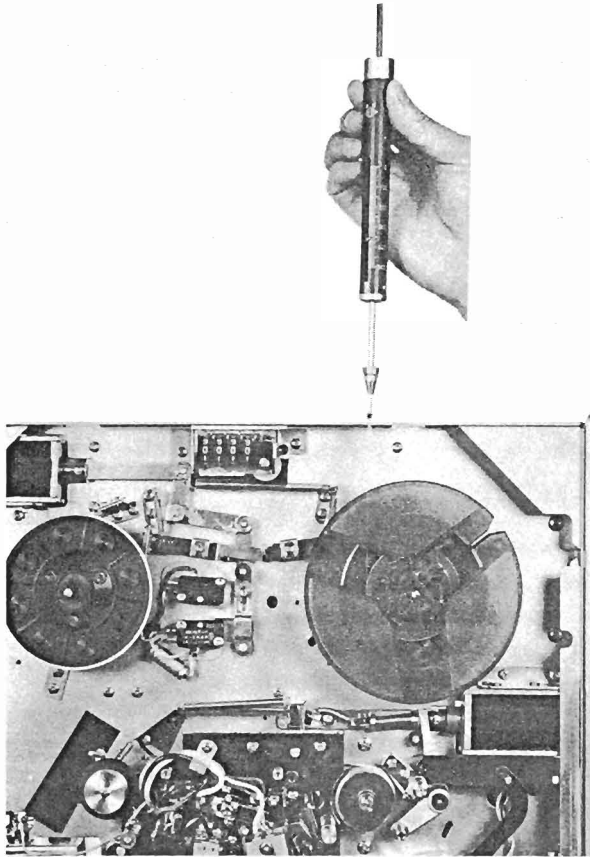

Fig. 10
- 1) Use a 60 mm diameter tape wound on a 5" reel and measure the brake tension as shown in Fig. 10. Ideal tape tension is 350 grams.